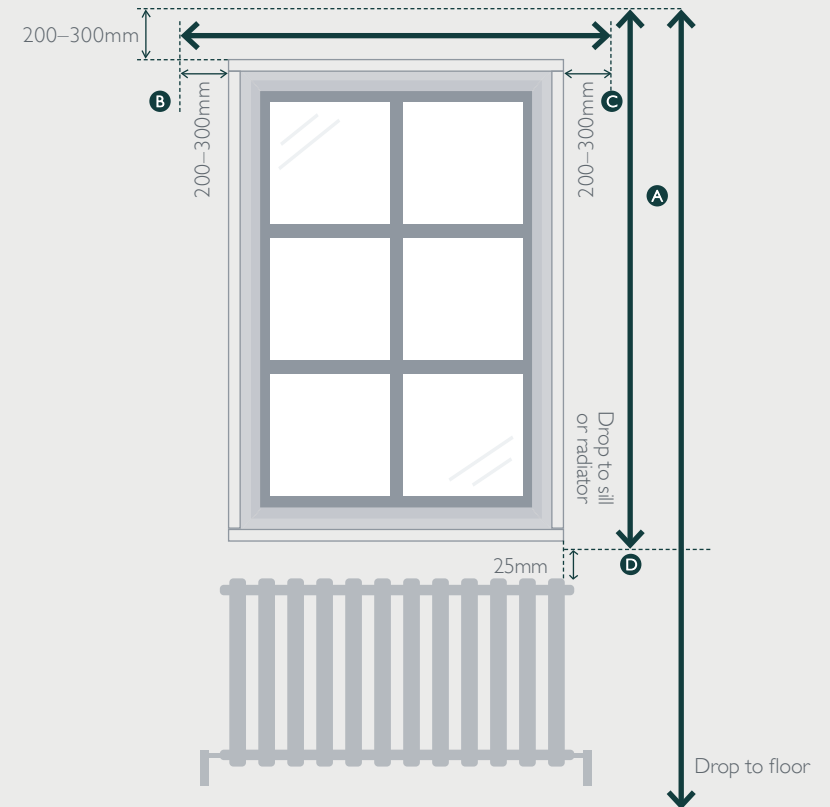

Fig. 1
STEP 1. Measure from end to end and record this as your width (e.g. 1000mm) as shown in (fig 1).
STEP 2. Measure in three places (left, middle and right) and record the shortest measurement (e.g. fig.1 your measurement will be 1500mm).
NOTE: When measuring a window without a track or pole in position we recommend an overlap of 200–300mm at each side and above the window (e.g. A, B, C measurements as show in (fig 1). 300mm at each side is recommended for bedrooms to help minimise light from leaking into the room. We cannot completely eliminate it, but it helps.
If you have an obstruction such as a radiator below a window, measure up to 25mm above the radiator to the bottom of the curtains (e.g. D measurements as shown in (fig.1).
STEP 1. Measure in mm from end to end as shown in (fig 1) and record this as your width measurement.
STEP 2. Measure in three places (left, middle and right window) and record the shortest measurement. (E.g. fig.1 your measurement will be 1500mm)